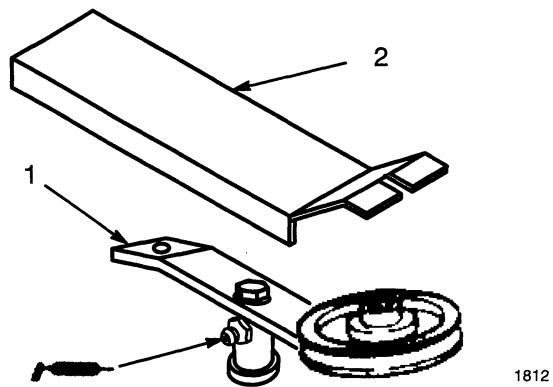

Figure 16
1. Lubricate blower pulley idler arm every 25 operating hours with # 2 multi-purpose lithium grease (Fig. 16). Belt cover must be removed to gain access to grease fitting.